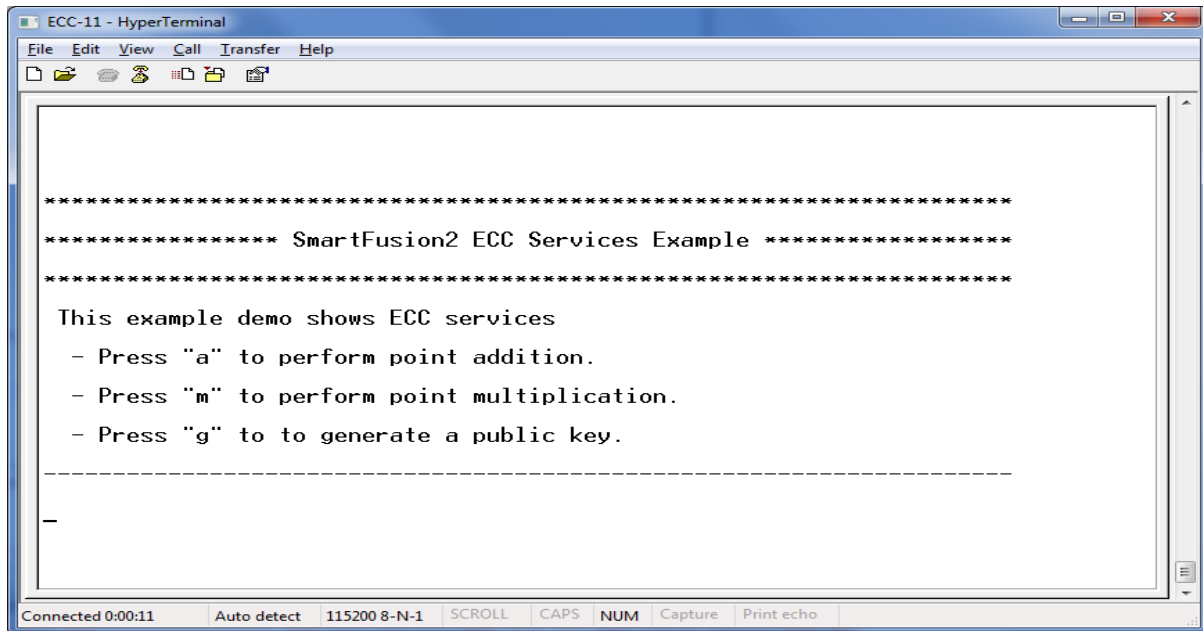

Figure 7 • Welcome Message
- After programming, HyperTerminal displays a message to run the ECC Services as shown in Figure 7.